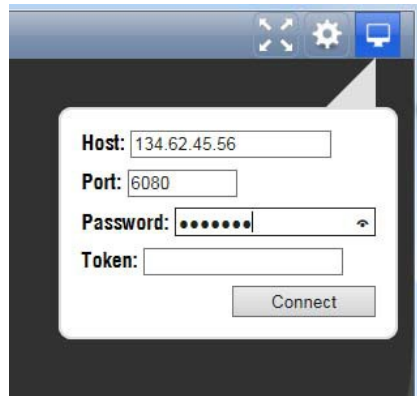

Figure 24: Settings menu with the password entered
6. In the Control bar, select the Connect icon () to open the Connect menu. (See Figure 24.)